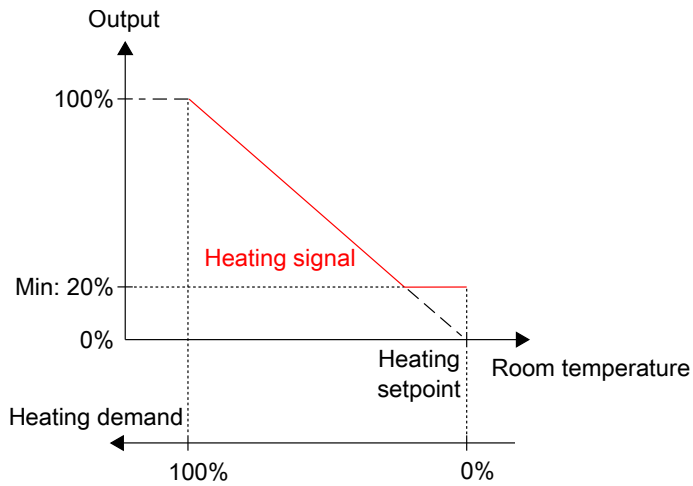

Figure 2-15 Control behaviour when maximum and minimum limits are set for the heating output.
*Figure 2-15* illustrates how the control behaviour is affected when limits are set for the heating output. For example, when a 85% maximum limit is set, *Heating signal* never exceeds 85% of its practical maximum (100%). When a 20% minimum limit is set, *Heating signal* is always at least 20%, as long as the controller is in heating mode.